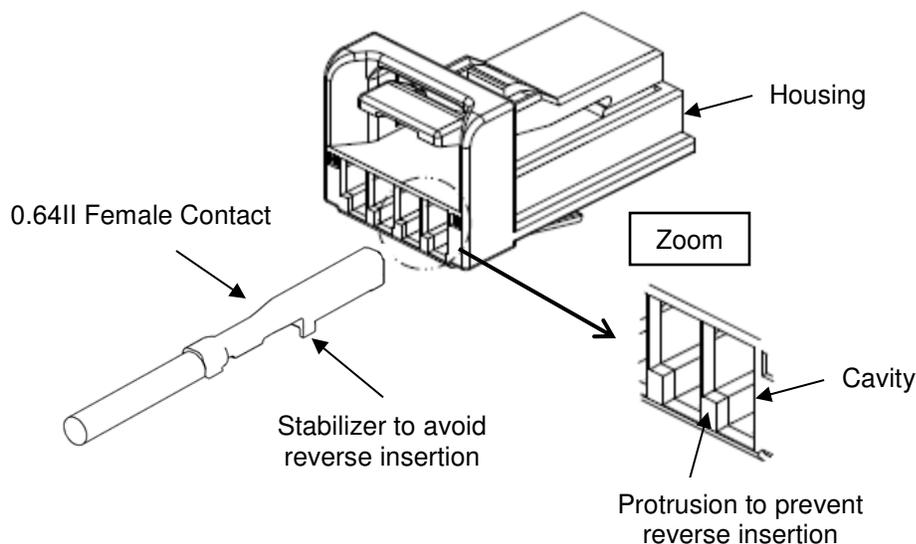

Fig.5
- (1) Insert the 0.64II female contacts into the housing with same direction as shown in Fig.5. The insertion is finished when you hear click sound and the contact stops.